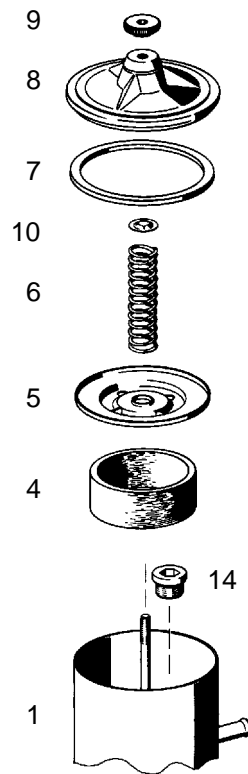

Fig. 1
1.1 Unscrew the wing nut / screw cap (9) (Fig. 1).